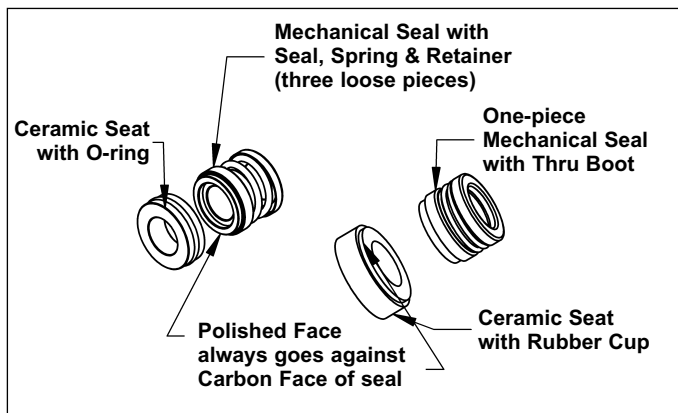

Figure 10 - Seal Types and Parts Identification
- b. There are two possible standard types of seals. One style, the seal is one piece while the other style has a seal boot, spring and spring retainer. The seal seats can also be of two styles; one has a rubber boot and the other has an o-ring. Identify which type you have (See Figure 10). (For the Teflon® seal, see the following note and Figure 12.)